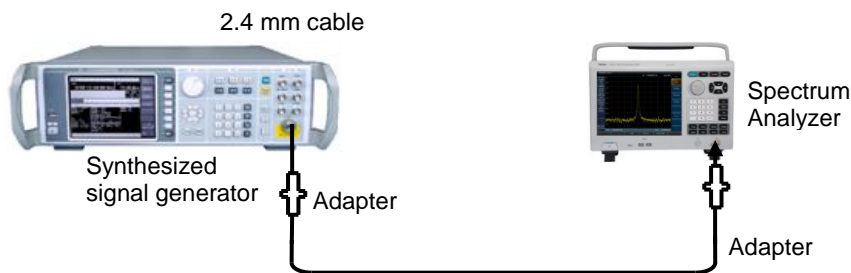

Fig 11-2 Test block diagram of frequency readout accuracy
1) Connect the test instrument as shown in Fig 11-2, and connect the RF output of signal generator to the RF input of spectrum analyzer.
5) Calculate the frequency reading error Δf according to equation (1):